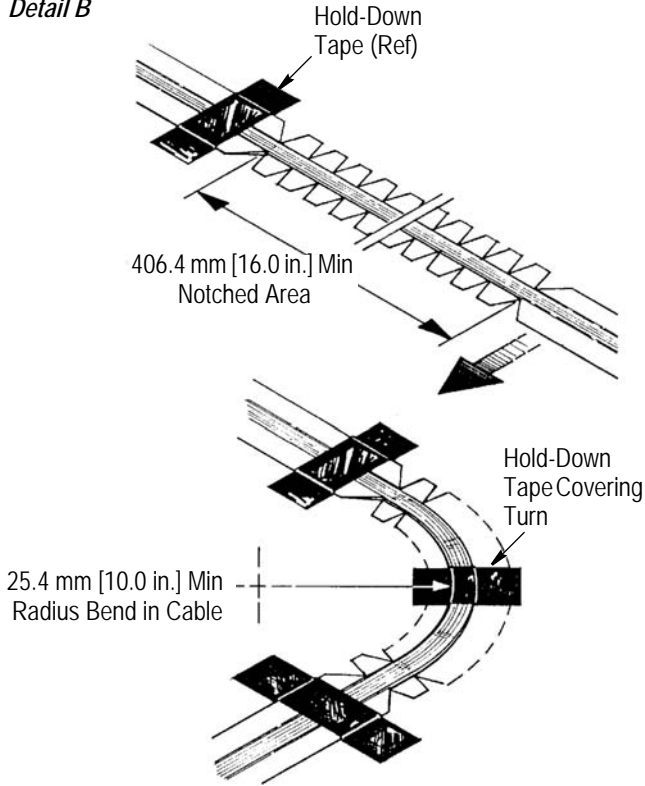

Figure 3
- a. Using Cable Notcher Tool 1725698-1, notch the wings of the cable at 25.4-mm [1.0-in.] intervals. Make sure to remove all notched material. Refer to Figure 3, Detail A.
- b. Bend the cable to form a gradual turn. Refer to Figure 3, Detail B for recommended length and radius. Cover the turn with hold-down tape to blend the profile of the cable at the notches.